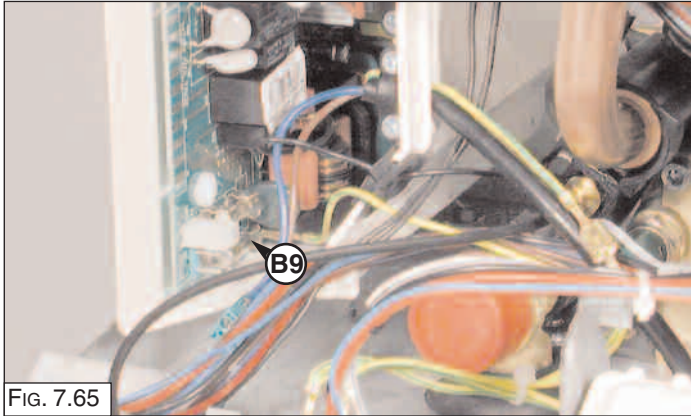

FIG. 7.65
2. Remove the fuses by pushing and rotating fuse holders "B9" (FIG. 7.65).